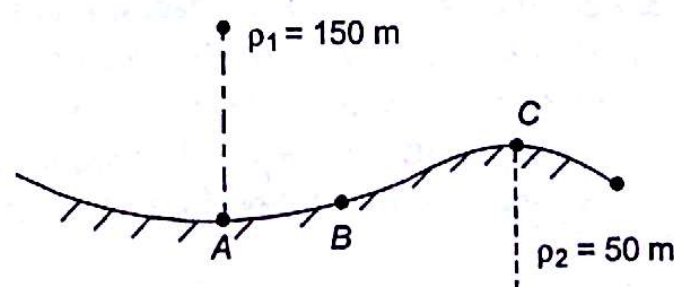

Fig. 11.13
- 11.9 A car driver anticipates a dip and a hump in road applies brakes to the car. At position A, speed of car is 90 kmph which is reduced to 36 kmph at point C, covering a distance $AC = 100 \text{ m}$ as shown in Fig. 11.13. Determine normal accelerations at A, B and C. What is the total acceleration at A?